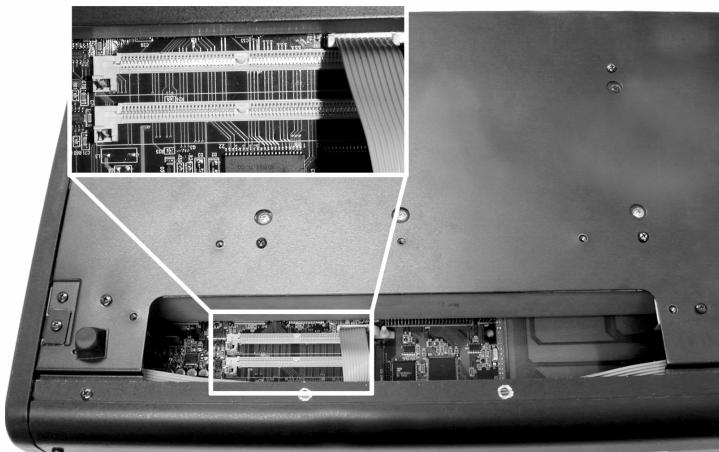

Figure 2 PC2 Engine board, showing sockets for option boards
1. Locate the Engine board, and identify the SIMM socket for the board you are installing: J409 for PCR-1, or J410 for PCR-2. Both sockets are shown in Figure 2.